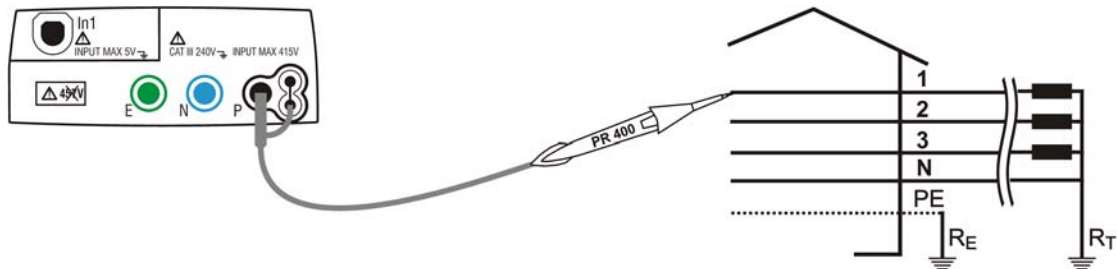

Fig. 24: Instrument connection for measuring the phase sequence with one lead, phase 1 connection
- Insert the blue and black connectors of the single cables into the corresponding input leads N and P of the instrument. Apply the relevant alligator clips to the free ends of the cables. It is also possible to use the remote probe by inserting its multipolar connector into the input lead P. Connect the alligator clips, the probes or the remote probe to the electrical mains according to Fig. 24 and Fig. 25.